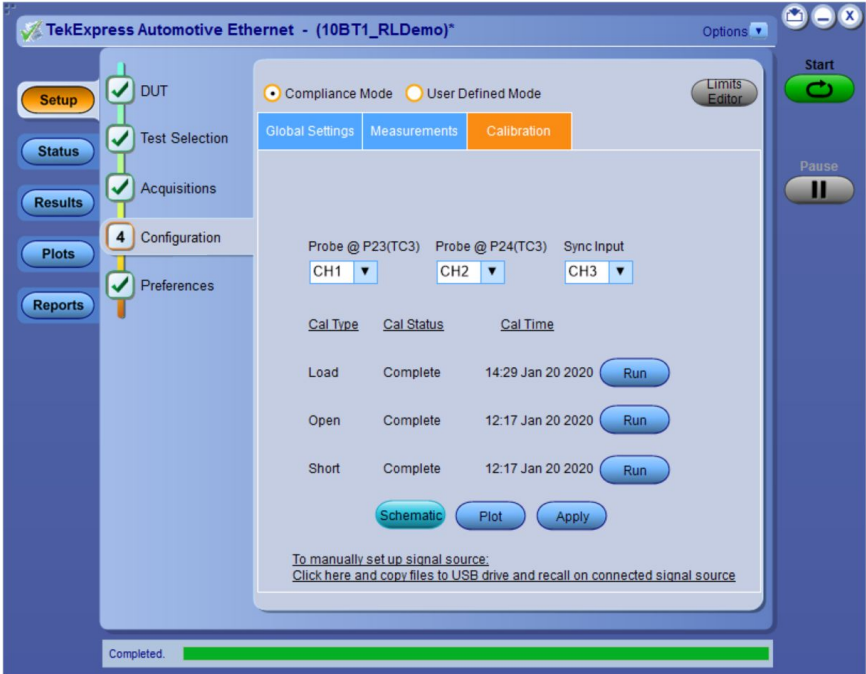

Figure 36: Return loss Calibration
10. Run all the three calibrations one after another, with appropriate connections to the calibration board – a) Load Calibration b) Open Calibration and C) short Calibration. The application screen for calibration is show in Figure 36: Return loss Calibration.